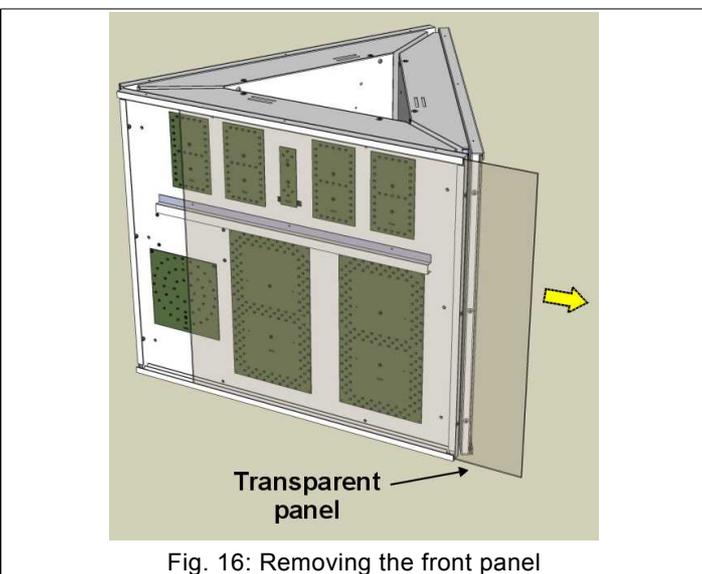

Fig. 16: Removing the front panel
3. Remove the transparent front panel (Fig. 16).